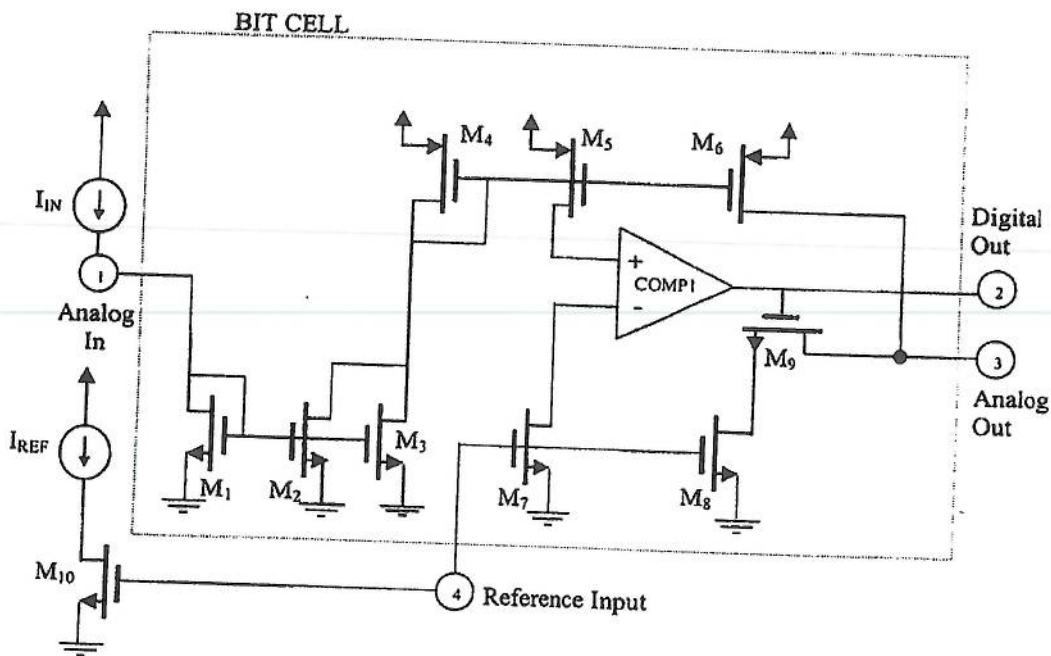

Figure 5.
- (b) Figure 5 shows one bit of an algorithmic data converter. *corrected 2.45u*